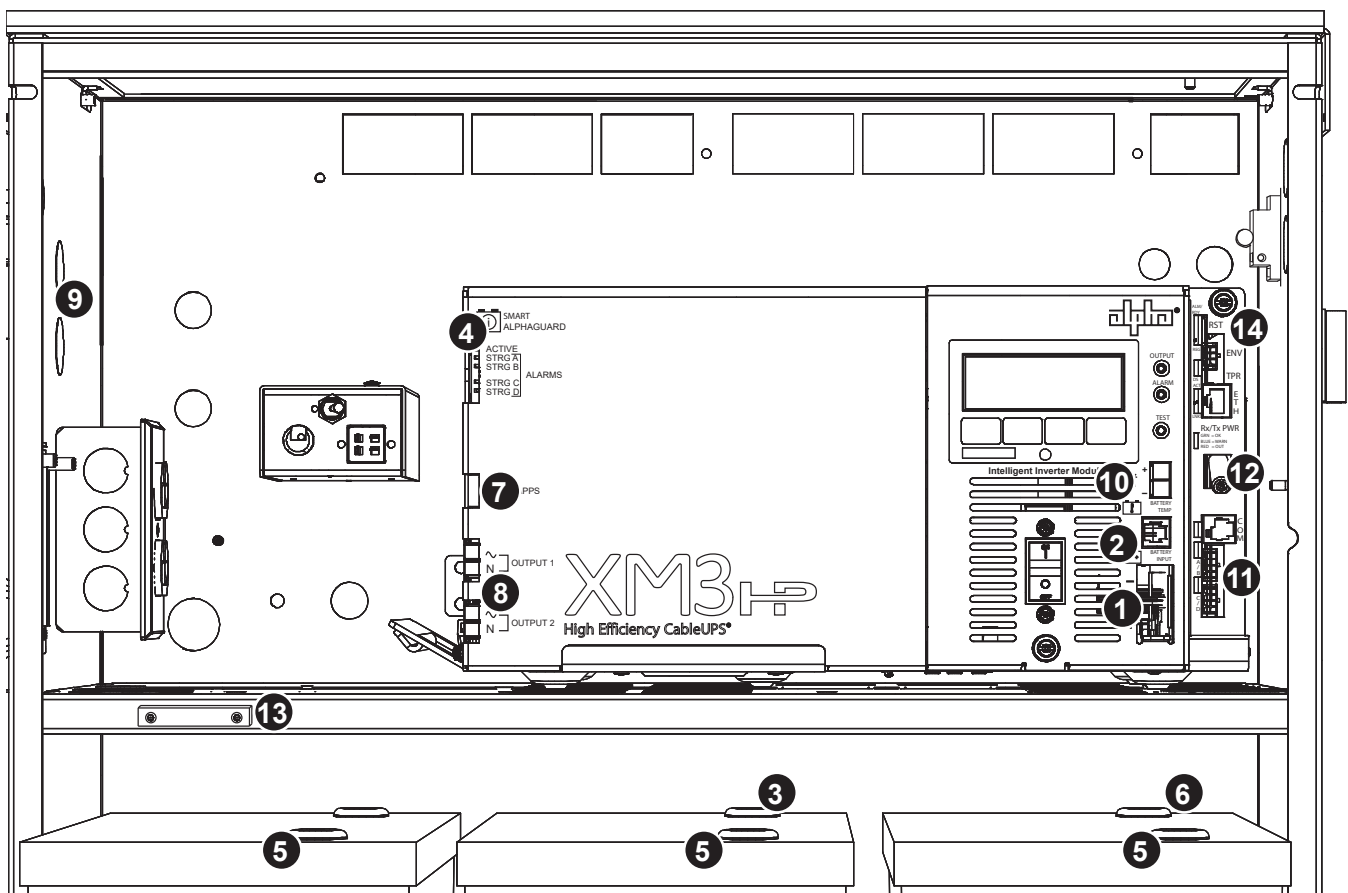

Fig. 4-1, XM3-HP System Components
- Inspect all cabling and connections of the power supply system (see Fig. 4-1). Verify that all cabling is intact and all connectors are properly seated; resolve as needed.